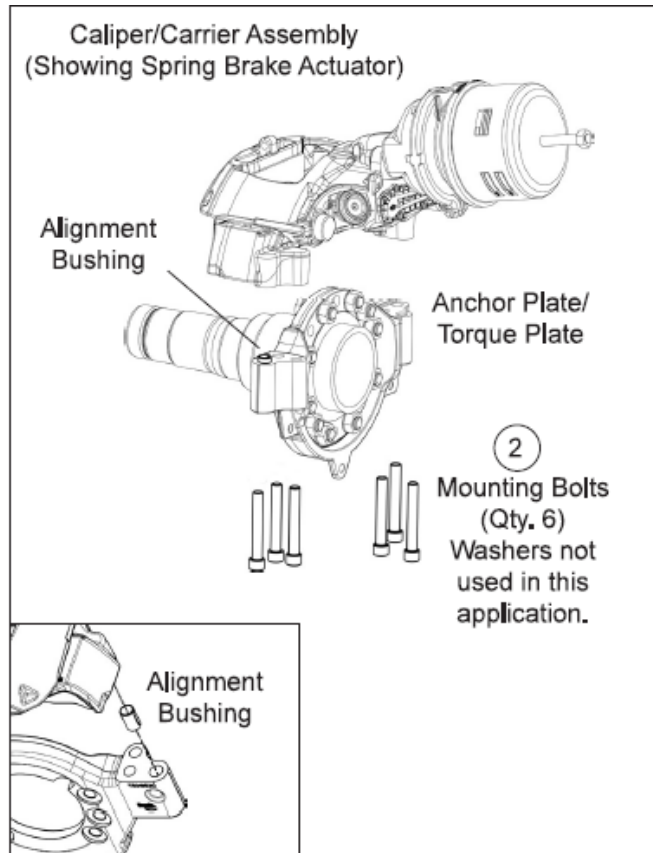

Figure 9: Vertical Mount Caliper/Carrier
11. Supporting the air disc brake in a safe way, remove/discard the six mounting bolts. Lift the caliper up off the anchor plate. See **Figure 9, Item 2**.